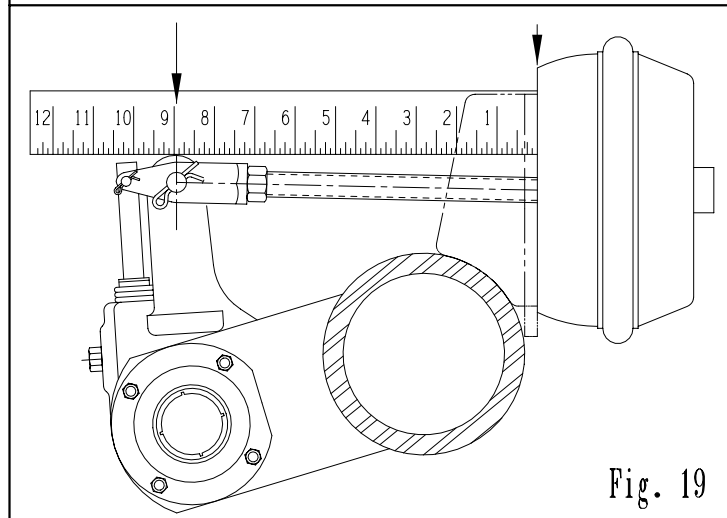

Fig. 19
3. Again, measure the distance from the bottom of the air chamber to the center of the clevis on all wheels. **See Fig. 19.**